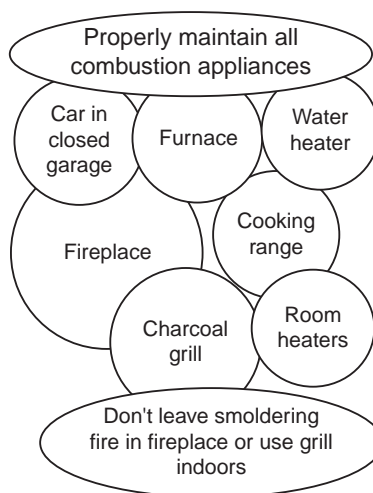

Figure 17.2
- Carbon monoxide⁹ In enclosed spaces CO causes hundreds of deaths in the United States each year. Lower levels of this colorless odorless gas can lead to headaches, dizziness, nausea, and flu-like symptoms. The US Consumer Product Safety Commission (CPSC) recommends that households install CO detectors that will sound an alarm if CO reaches unsafe levels. To largely eliminate CO emissions, combustion appliances need good maintenance. This is true of all types of stoves and furnaces and of fireplaces, and chimneys, and their connections. Kerosene heaters should be vented outdoors. Also vent stove hoods to the outside and install appliances according to the manufacturer’s instructions. Don’t leave a fire smoldering in a fireplace; if a fire is still burning, close it off from the room (Figure 17.2).